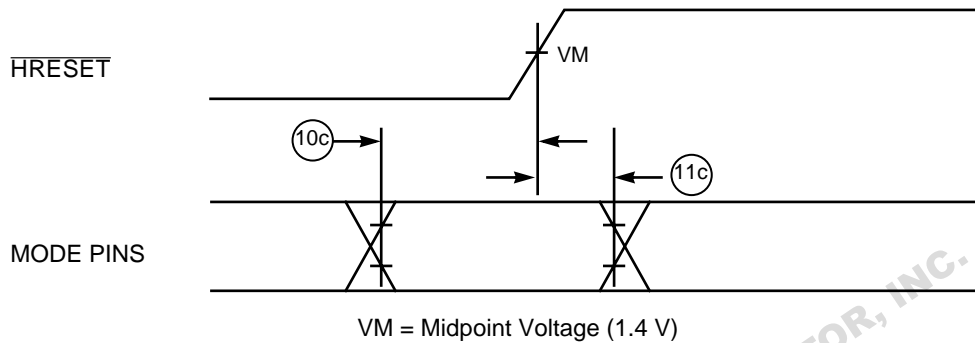

Figure 3. Mode Select Input Timing Diagram
Table 7 provides the input AC timing specifications for the PID7v-603e as defined in Figure 2 and Figure 3.
4. The setup and hold time is with respect to the rising edge of $\overline{\text{HRESET}}$ (see Figure 3).
Figure 3 provides the mode select input timing diagram for the PID7v-603e.